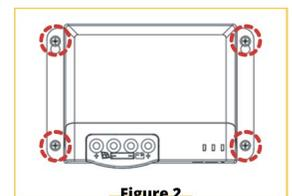

Figure 2
Step 3: Fasten the controller. Align fixing holes of the controller with the two pre-fixed screws. Hang the controller vertically and then fix the lower two screws (see **Figure 2**).